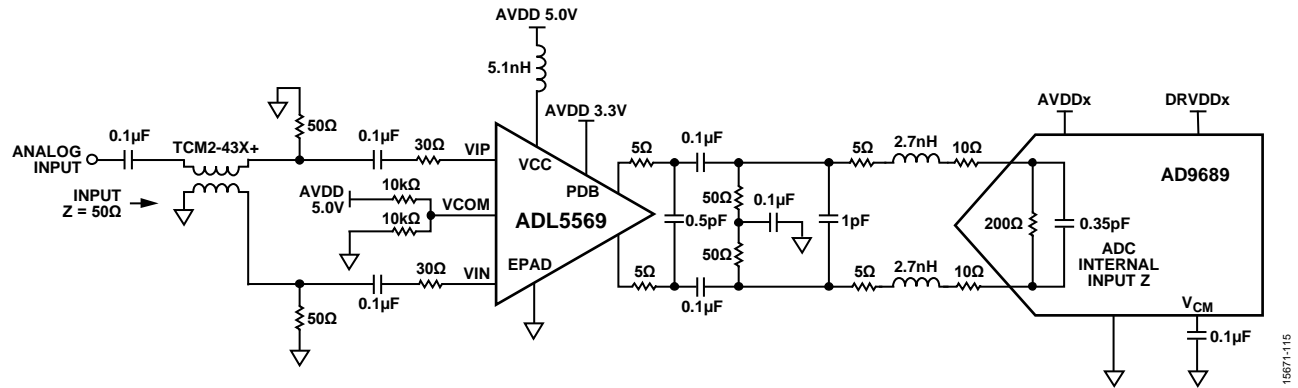

Figure 49. Wideband 3.2 GHz Bandwidth AC-Coupled ADC Interfacing Example: ADL5569 Driving the AD9689
A wideband data acquisition system using the ADL5569 together with the AD9689, a dual 14-bit ADC, was developed and tested as shown in Figure 49 for ac-coupled applications. The amplifier output common-mode voltage is set to $AV_{DD}/2$ with the voltage divider formed by the two 10 k Ω resistors on the VCOM pin. However, the VCOM pin can be left open (with a decoupling capacitor as described in Table 4), because there is an internal divider to pull the node to $V_{CC}/2$ in such cases. The resistor capacitor (RC) filter after the amplifier works with the pole formed by the ADC input capacitance to attenuate the broadband noise and out of band harmonics generated by the amplifier. The RC filter also blocks sharp switching pulses, that is, charge injection from the ADC internal sampling circuitry, from reaching the amplifier outputs and creating nonlinear effects. An additional band-pass filter, specific to the system rejection requirements, is also needed in front of the ADL5569 amplifier to prevent